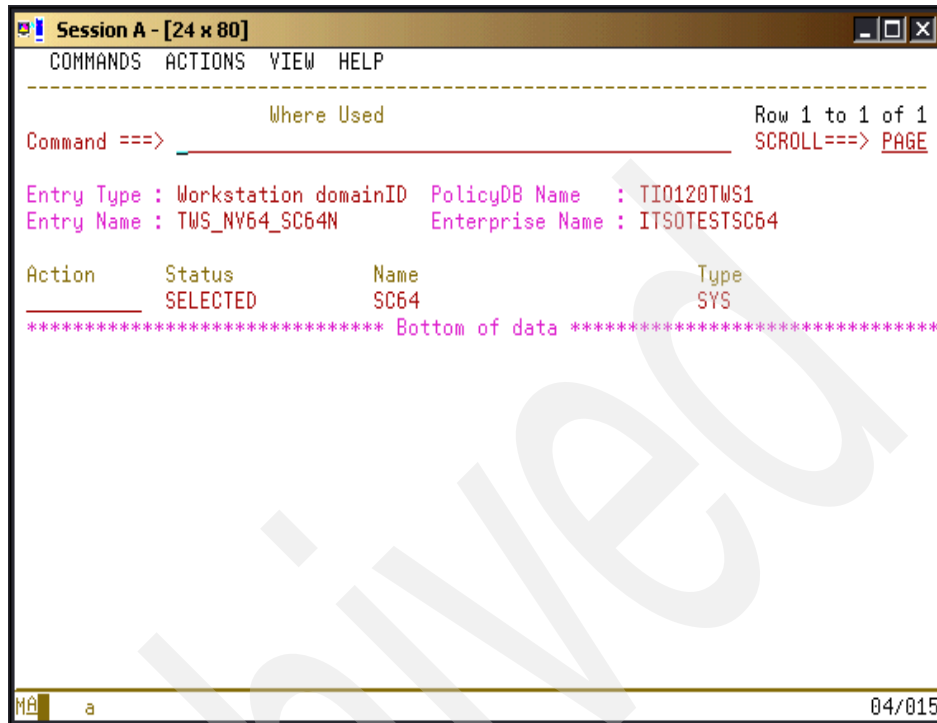

Figure 4-70 Workstation domainID Where Used panel after 's' action
- This panel should show all systems that are defined in the SYSPLEX PDB. Select the system on which this workstation is used by placing an s in the Action column next to the system and pressing Enter. (We only have one system in our SYSPLEX PDB which is SC64.) The Status column changes to SELECTED as shown in Figure 4-70 on page 177.